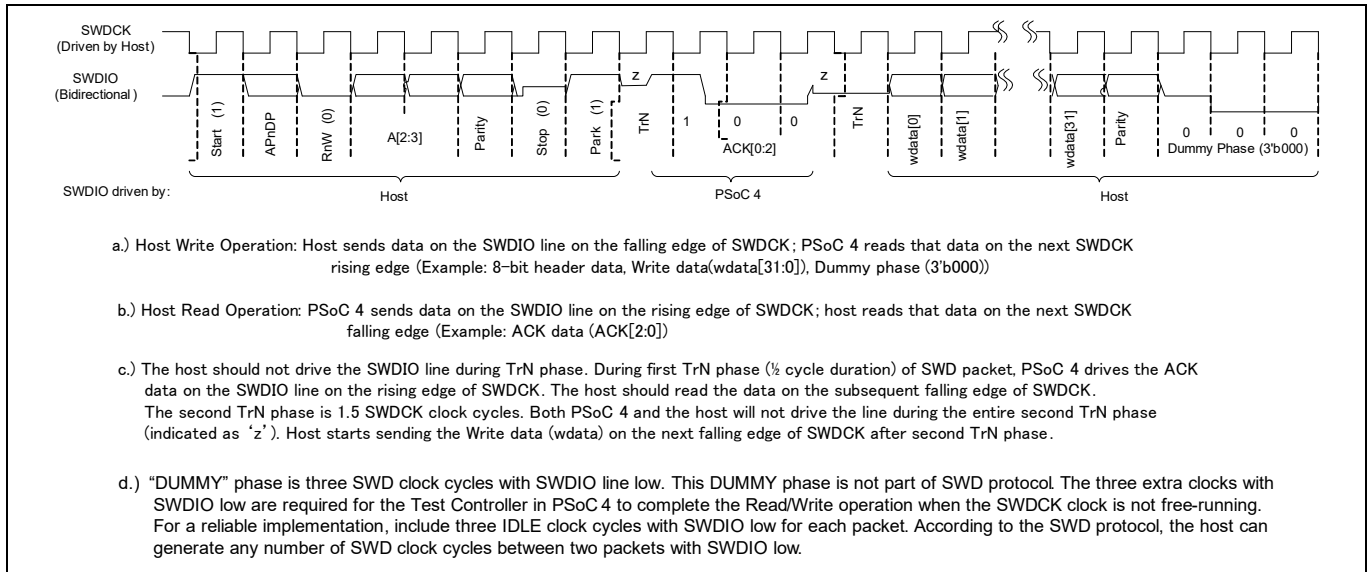
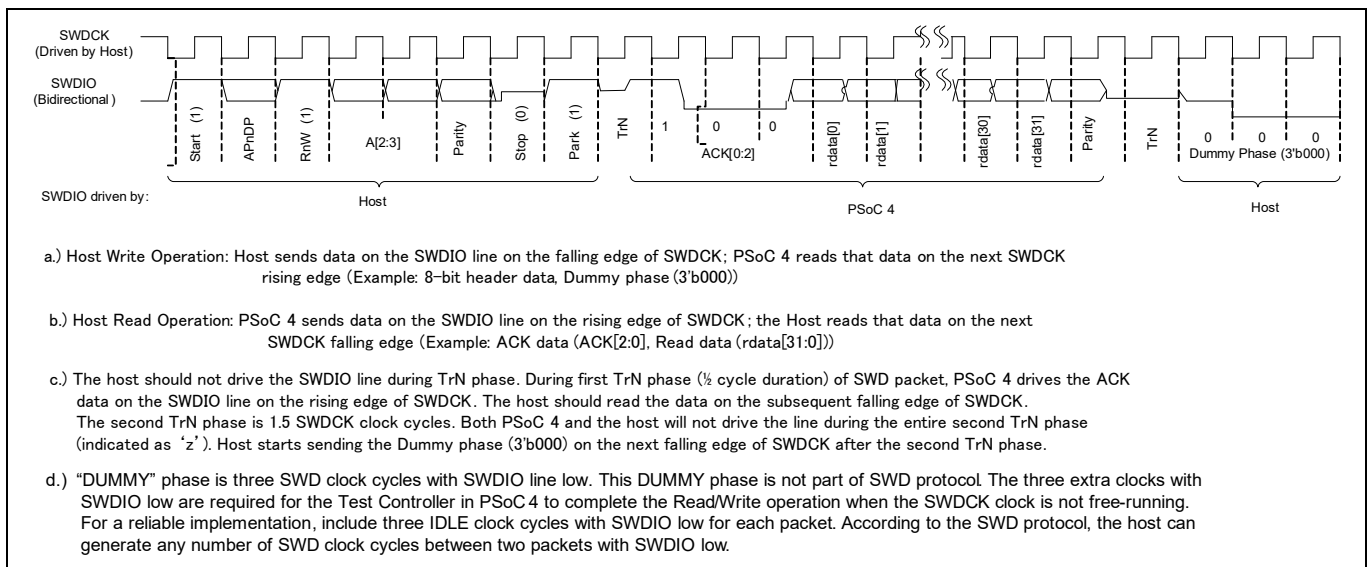

Figure 24-2. SWD 'Write Packet' timing diagram
Figure 24-3. SWD 'Read Packet' timing diagram
PSoC™ 4’s Cortex®-M0+ supports programming and debugging through the SWD interface. The SWD interface has two signals: data (SWDIO) and clock for data (SWDCK). The host programmer always drives the clock line, whereas either the programmer or the PSoC™ device drives the data line. The host programmer and PSoC™ communicate in packet format through the SWD interface. Write packet refers to the SWD packet transaction in which the host writes data to PSoC™ 4. Read packet refers to the SWD packet transaction in which the host reads data from PSoC™ 4. The Write packet and Read packet formats are illustrated in Figure 24-2 and Figure 24-3, respectively.
A complete data transfer requires 46 clocks (not including the optional three dummy clock cycles in Figure 24-2 and Figure 24-3). Each data transfer consists of three phases:
In Figure 24-2 and Figure 24-3, the following sequence occurs:
5. Turnaround (TrN) phase: According to the SWD protocol, the TrN phase is used both by the host and PSoC™ 4 to change the drive modes on their respective SWDIO line. During the first TrN phase after packet request, PSoC™ 4 drives the ACK data on the SWDIO line on the rising edge of SWDCK in the TrN phase. This ensures that the host can read the ACK data on the next falling edge. Thus, the first TrN cycle is only for half-cycle duration. The second TrN phase is one-and-a-half cycle long. Neither the host nor PSoC™ 4 should drive SWDIO line during both phases as indicated by 'z' in Figure 24-2 and Figure 24-3.
7. At the end of each SWD packet in Figure 24-2 and Figure 24-3, there is a “DUMMY” phase, which is three SWD clock cycles with SWDIO line held low. The dummy phase is not part of the SWD protocol. The three extra clocks with SWDIO low are required for the test controller in PSoC™ 4 to complete the read/write operation when the SWDCK clock is not free-running. For reliable implementation, include three IDLE clock cycles with SWDIO low for each packet. According to the SWD protocol, the host can generate any number of SWD clock cycles between two packets when SWDIO is low.